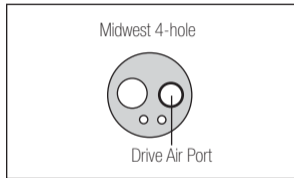

Fig. 11
- 3) Insert the Spray Nozzle into the Drive Air Port of the handpiece. Hold the handpiece and spray for approximately 2-3 seconds. Apply lubricant until it expels from the handpiece head for at least 2 seconds. (Fig. 11)
- 2) Apply 1-2 drops of lubrication oil into the Drive Air Port shown in the Fig. 11.